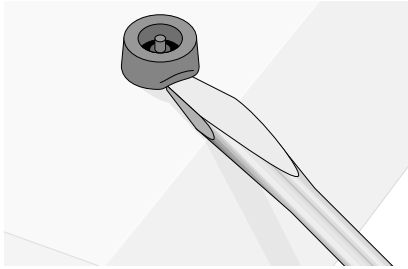

Figure 6 Removing the Rubber Feet
1. If attached, remove the four protective feet from the bottom of the switch as shown in Figure 6.